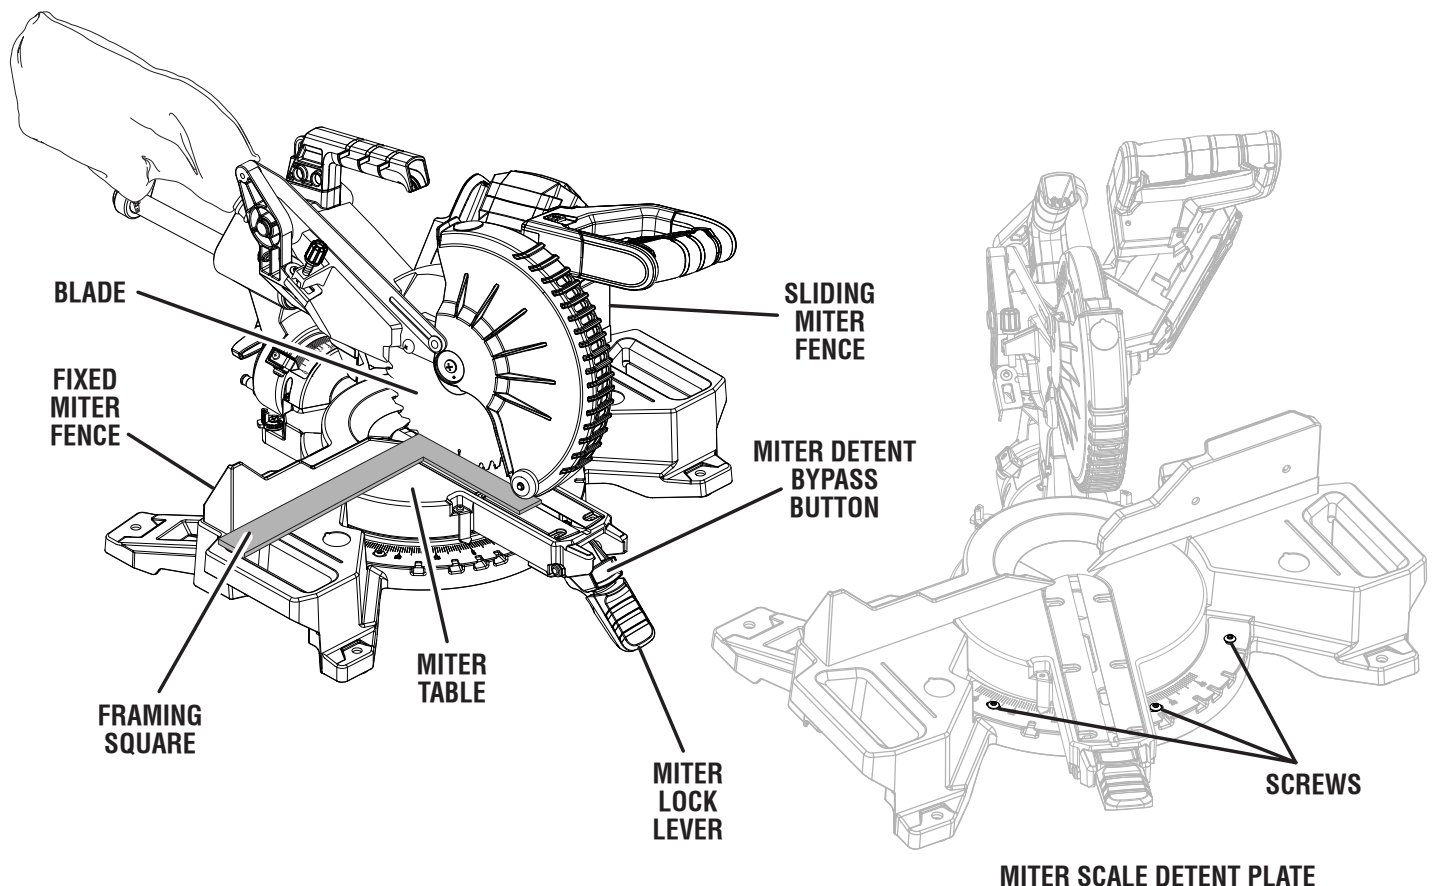

Fig. 15
- The edge of the square and the saw blade should be parallel as shown in figure 15.
- Press the miter detent bypass and rotate the miter table until the pointer is at the left 30° position on the miter scale as shown in figure 15.
- Press the miter detent bypass and rotate the miter table to the left 30° position on the miter scale as shown in figure 15.